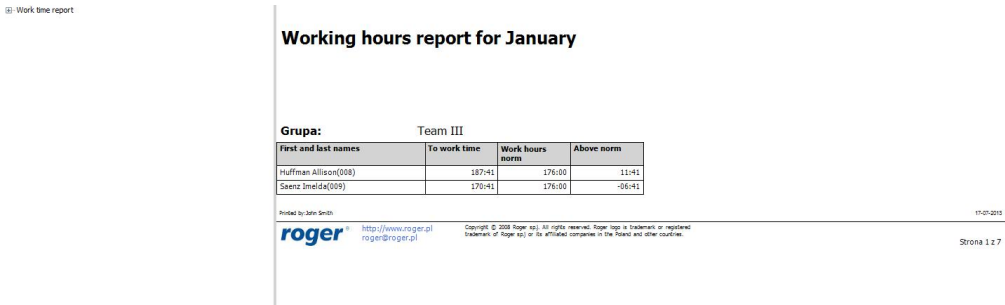

Figure 32. The report is ready
11. Close the REPORT HEADERS dialog, and then in the REPORT CENTER window click PRINT button again. Now the report looks exactly as we wanted (figure 32)